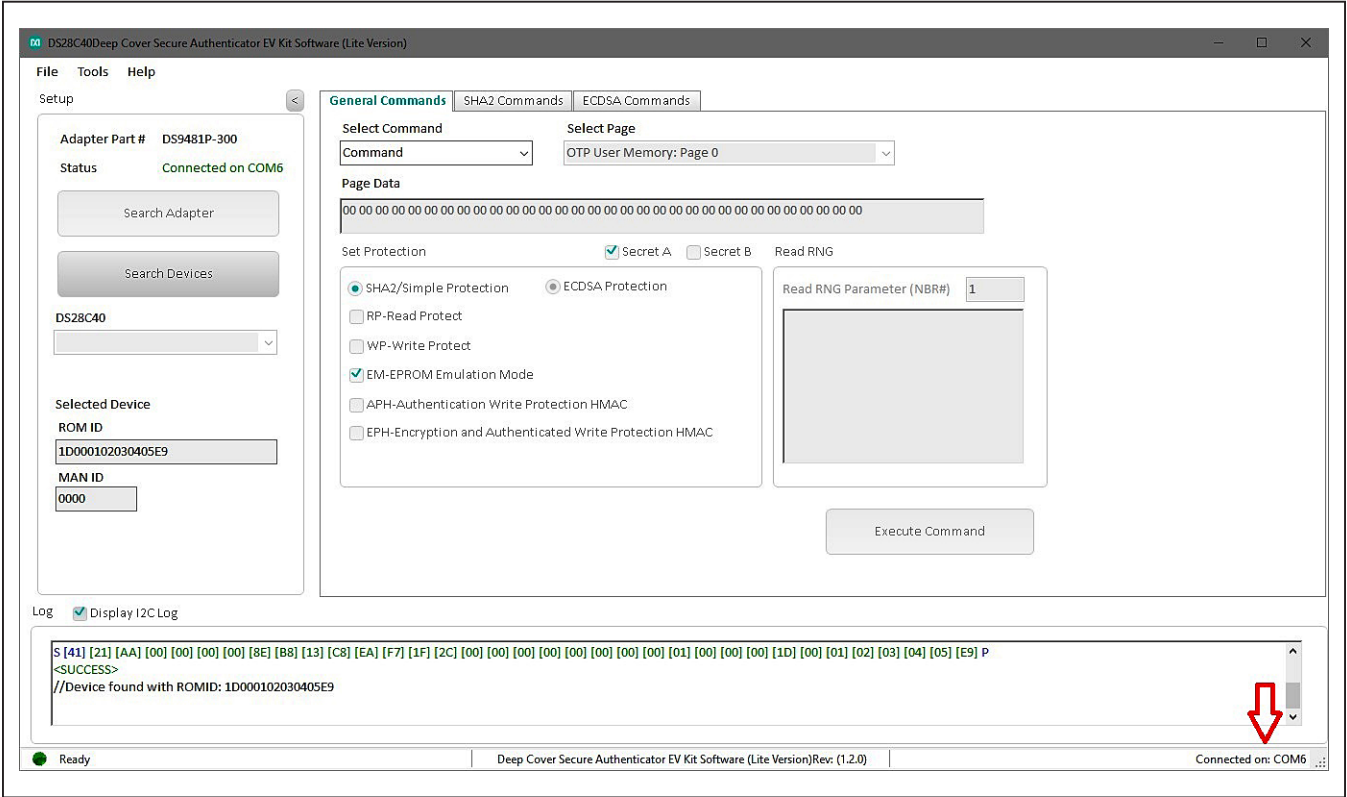

Figure 12. DS28C40 EV Kit Program (Default View upon Opening)
12) The DS28C40 EV kit program now opens and connects to the DS9481P-300 COM port. This can be verified in the lower right corner of the window as shown in Figure 12.